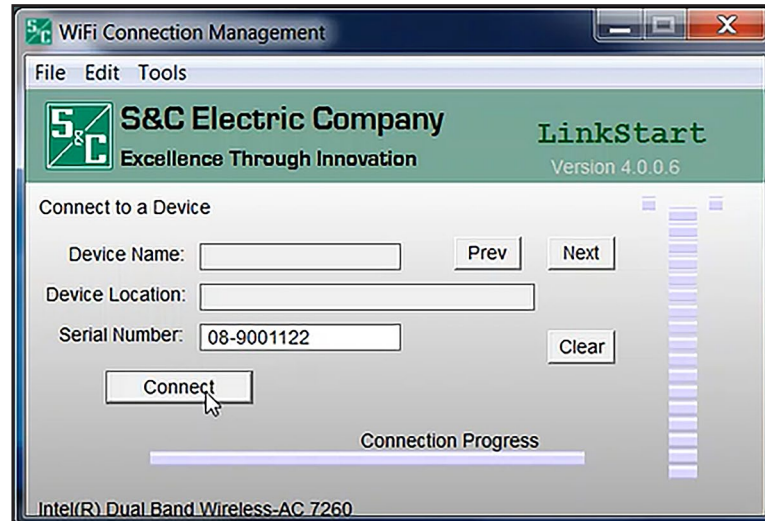

Figure 5. The *Wi-Fi Connection Management* screen.
STEP 1. In the Windows® 10 **Start** menu, select *Start>Programs>S&C Electric> LinkStart>LinkStart V4*. The *Wi-Fi Connection Management* screen will open. See Figure 5.
STEP 2. Enter the serial number of the IntelliRupter fault interrupter and click on the **Connect** button. See Figure 5.